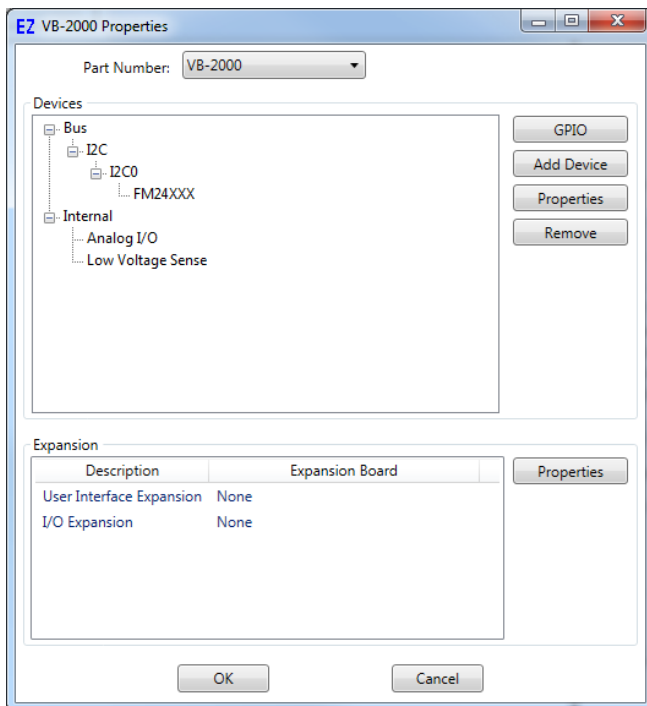

Figure 7-3
2. Click the **PROPERTIES** button to the right side of the window. The VB-2000 Properties Window will open. Make sure the proper model (Part Number) is selected in the drop-down menu. Refer to Figure 7-3